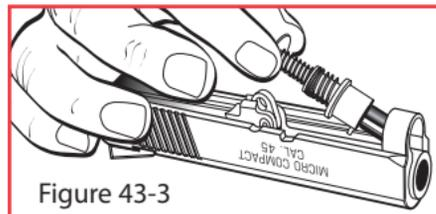

Figure 43-3
5. The recoil spring system can now be removed from the slide. (See fig. 43-3)